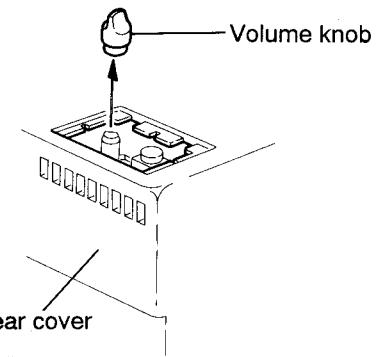

Fig. 7-1
■ How to Remove the Upper Cover (Refer to Fig. 7-1~4)